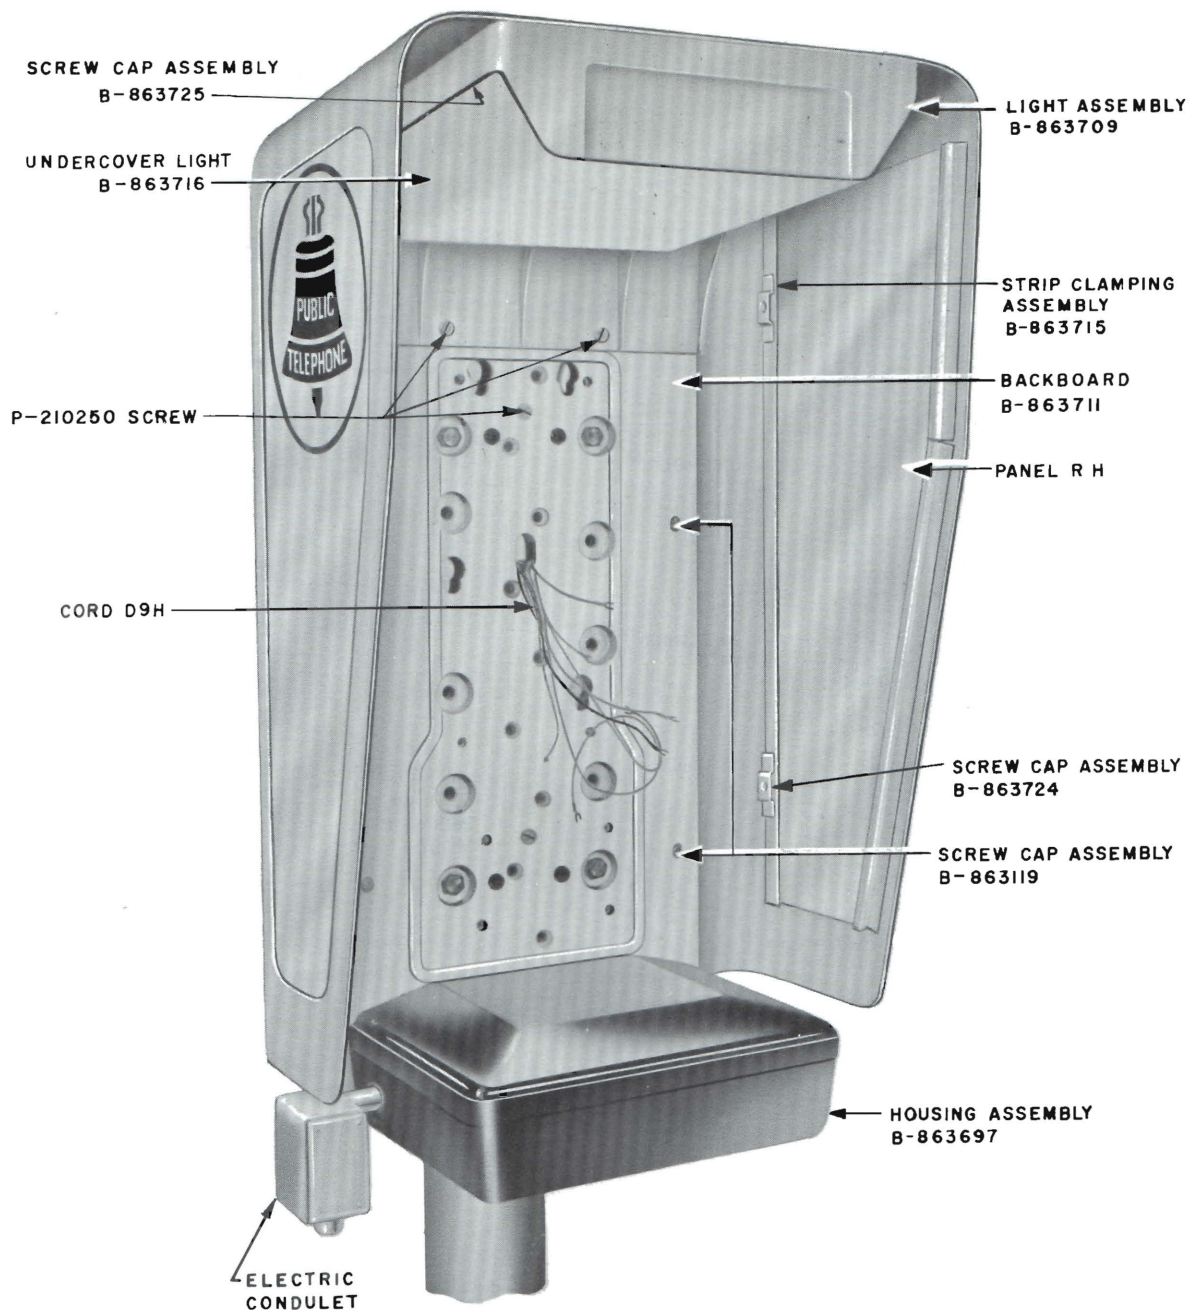

Fig. 5 — Front View
3.01 Each mounting consists of a weather hood, backboard, subscriber set housing, and a fluorescent light fixture. The backboard serves as a mounting surface for all the major items including the coin collector (Fig. 5). Backboard is designed to accept security studs.